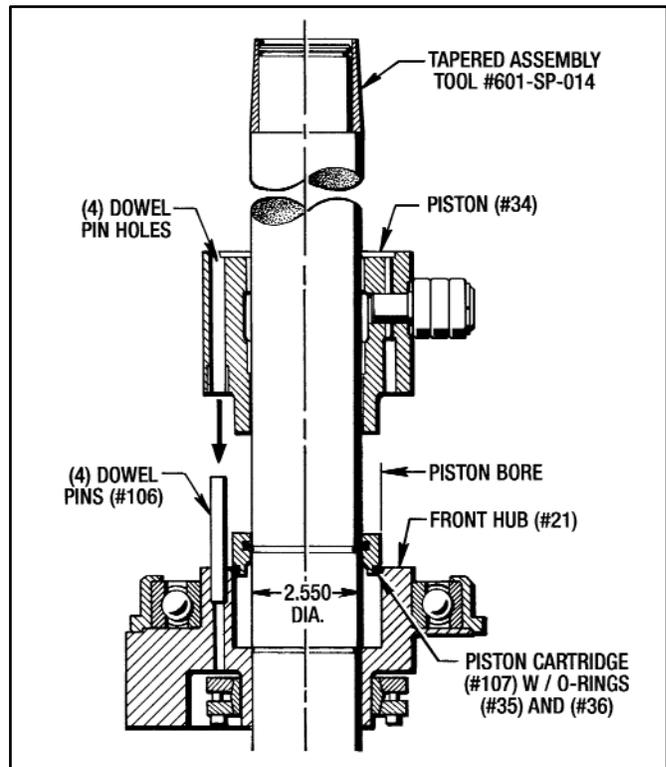

Figure 7.9 - Installing Piston
- Apply a liberal amount of Grease to the piston bore in the Front Hub (#21) and the 2.550" shaft diameter. (See Figure 7.9)
- Carefully slide the Piston Cartridge (#107) down and over the shaft until it rests on the Front Hub (#21) as shown in Figure 7.9.
- Lubricate the (4) Dowel Pins (#101), piston dowel holes and the rear face of the Piston Cartridge (#107) with a liberal amount of **Royal Purple Grease**. (See Figure 7.9)
- Push the Piston Sub-Assembly down and over the Vibrator Shaft (#1) and onto the (4) Dowel Pins (#106). Tap with a soft hammer to make sure that the Piston Cartridge (#107) and Piston (#34) is firmly seated against each other in the Front Hub (#21) piston bore.